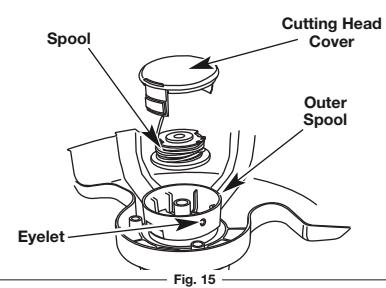

Fig. 15
2. Remove the inner reel from the outer spool (Fig. 15).
7. Insert the end of the line through the eyelet in the outer spool (Fig. 15).
10. Install the cutting head cover over the inner reel. Align the tabs on the cover with the slots in the outer spool and press the cover down evenly until it snaps into place (Fig. 15).
4. Insert the end of the line of the pre-wound reel through the eyelet in the outer spool (Fig. 15).
5. Place the inner reel inside the outer spool (Fig. 15).